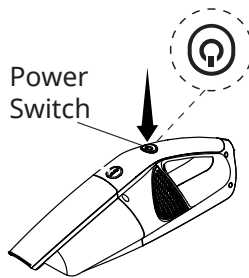

Fig.14
- To turn on the handheld vacuum cleaner, press the power switch located on top of the handle (Fig.14).